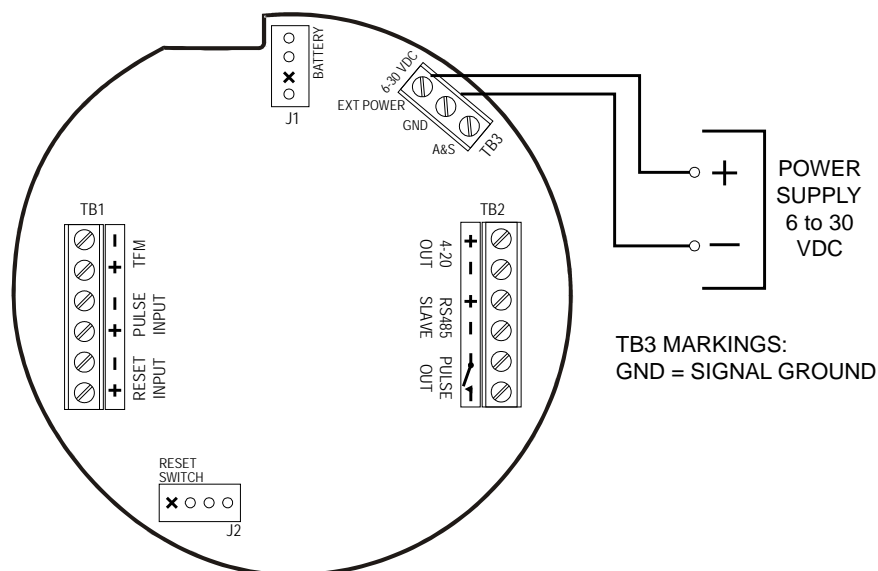

Figure 2.8—External power supply wiring
5. Connect wiring for external power, if appropriate. See Figure 2.8, page 21.
The MC-III EXP can be connected to a remote power supply by a two-conductor cable (Figure 2.8). The power supply and cable must be capable of supplying 6 to 30 VDC @ 10 mA. This capability is available only if the 4-20 mA rate output is not used.